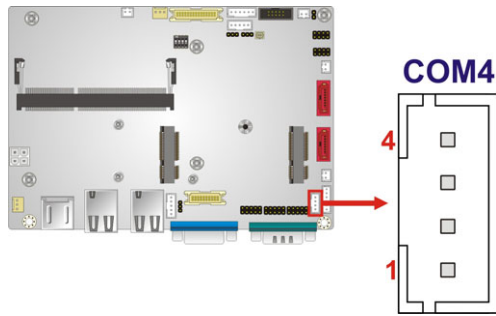

Figure 3-18: RS-422/485 Connector Location
- CN Location:** See Figure 3-18